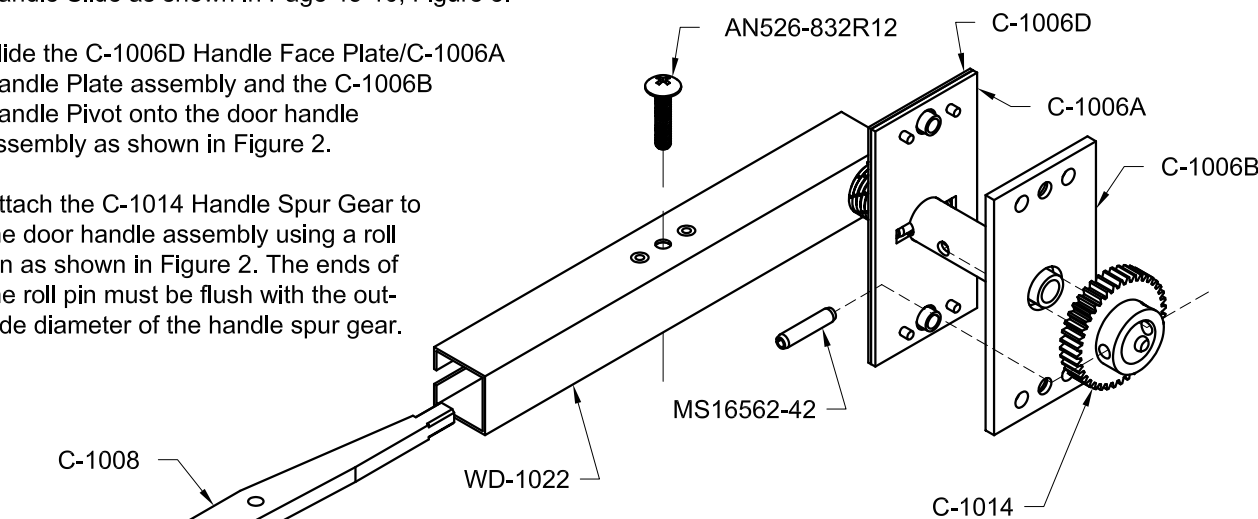

FIGURE 2: ADD HANDLE LEVER, PLATES, & GEAR
Step 2: Secure the C-1008 Handle Lever to the WD-1022 Door Handle Assembly with a screw as shown in Figure 2. When the handle lever is secured in place, the narrow end must engage the opening in the C-1007 Handle Slide as shown in Page 45-10, Figure 3.
Slide the C-1006D Handle Face Plate/C-1006A Handle Plate assembly and the C-1006B Handle Pivot onto the door handle assembly as shown in Figure 2.
Attach the C-1014 Handle Spur Gear to the door handle assembly using a roll pin as shown in Figure 2. The ends of the roll pin must be flush with the outside diameter of the handle spur gear.